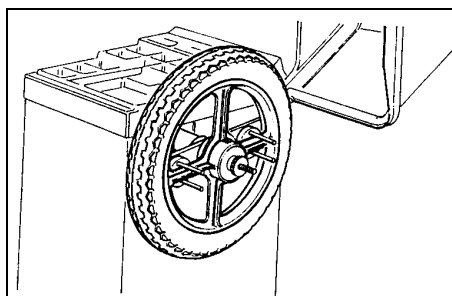

fig.15
- Fig. 15 shows the attachment system for motorcycle wheels using the motorcycle flange.
If only the static imbalance is to be determined, as with motorcycle wheels, only the rim diameter has to be set on the programmer (2), (**see fig. 15**). The other two readings can be set at any figure.